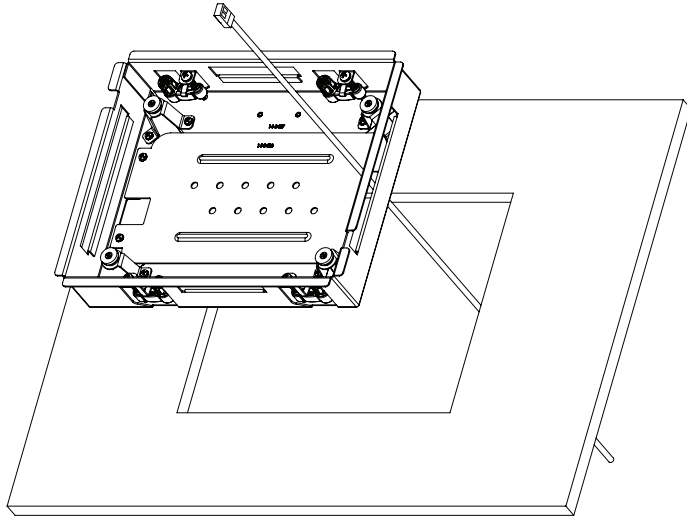

Figure 4: Mounting Frame
5. Prior to placing the mounting frame into the wall, pull a sufficient length of the wire through the wire opening in the side of the mounting frame, as shown in figure 4.